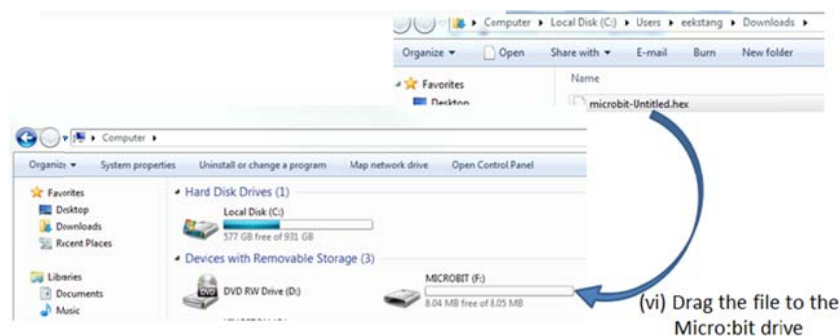

Fig. 9. Flashing the hex file to micro:bit
7. Identify the location of the hex file, and then drag the file to the MICROBIT drive (Note: Remember to connect micro:bit to PC). An example is shown in Fig. 9 (Note: The drive ID is F: in this example, but it may not be the same in your case.)